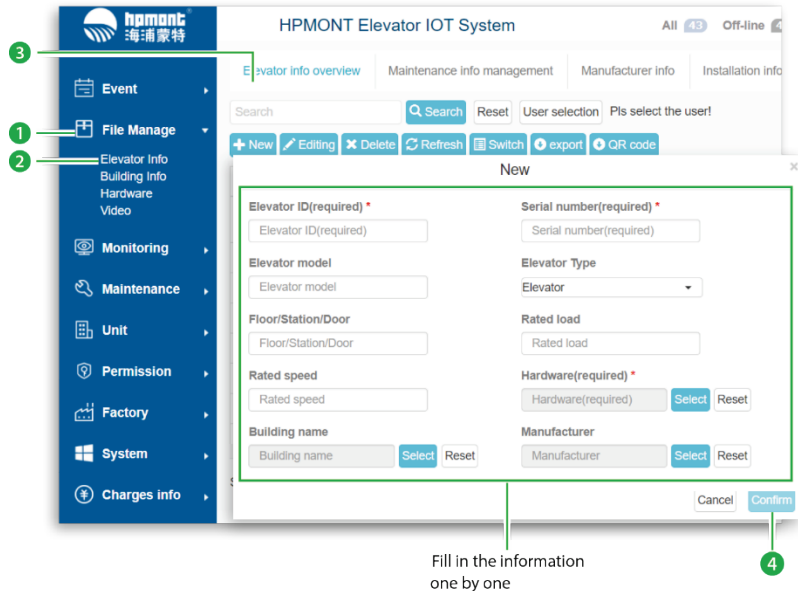

Figure 5-4 Binding elevator with WiFi module
Click "File Management" ①, "Elevator Information" ②, click "New" ③ in the interface, fill in the information in the opened window, and click "Confirm" ④ when finished, as shown in Figure 5-4.